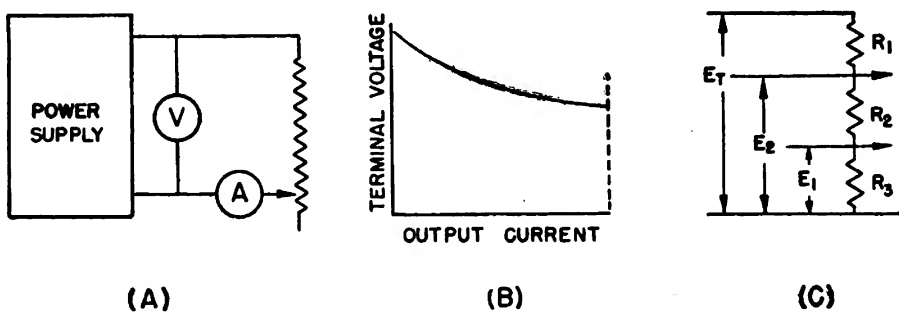

Figure 39.—Voltage regulation circuit.
You have in figure 39 a simple circuit that helps you obtain these data. Connect a variable resistance across the terminals of the power supply. By varying this resistance, you determine the terminal voltage over a wide range of load-current values. If you plot these values in a graph, you obtain a characteristic curve similar to that of figure 39 (B). With the information contained in this graph, you can design a voltage-divider or alter any existing
Before proceeding with the actual design of a voltage-divider, you must get one more value. Look at figure 39 (C). When two voltage levels are required, you use **THREE** resistors. Resistor R_3 , referred to as the **BLEEDER RESISTOR**, stabilizes the voltage at the other taps. When the power supply has excellent regulation and the current drawn from the taps is fairly constant, you may eliminate this resistor. Because power supplies rarely have excellent regulation, this third resistor is usually included.